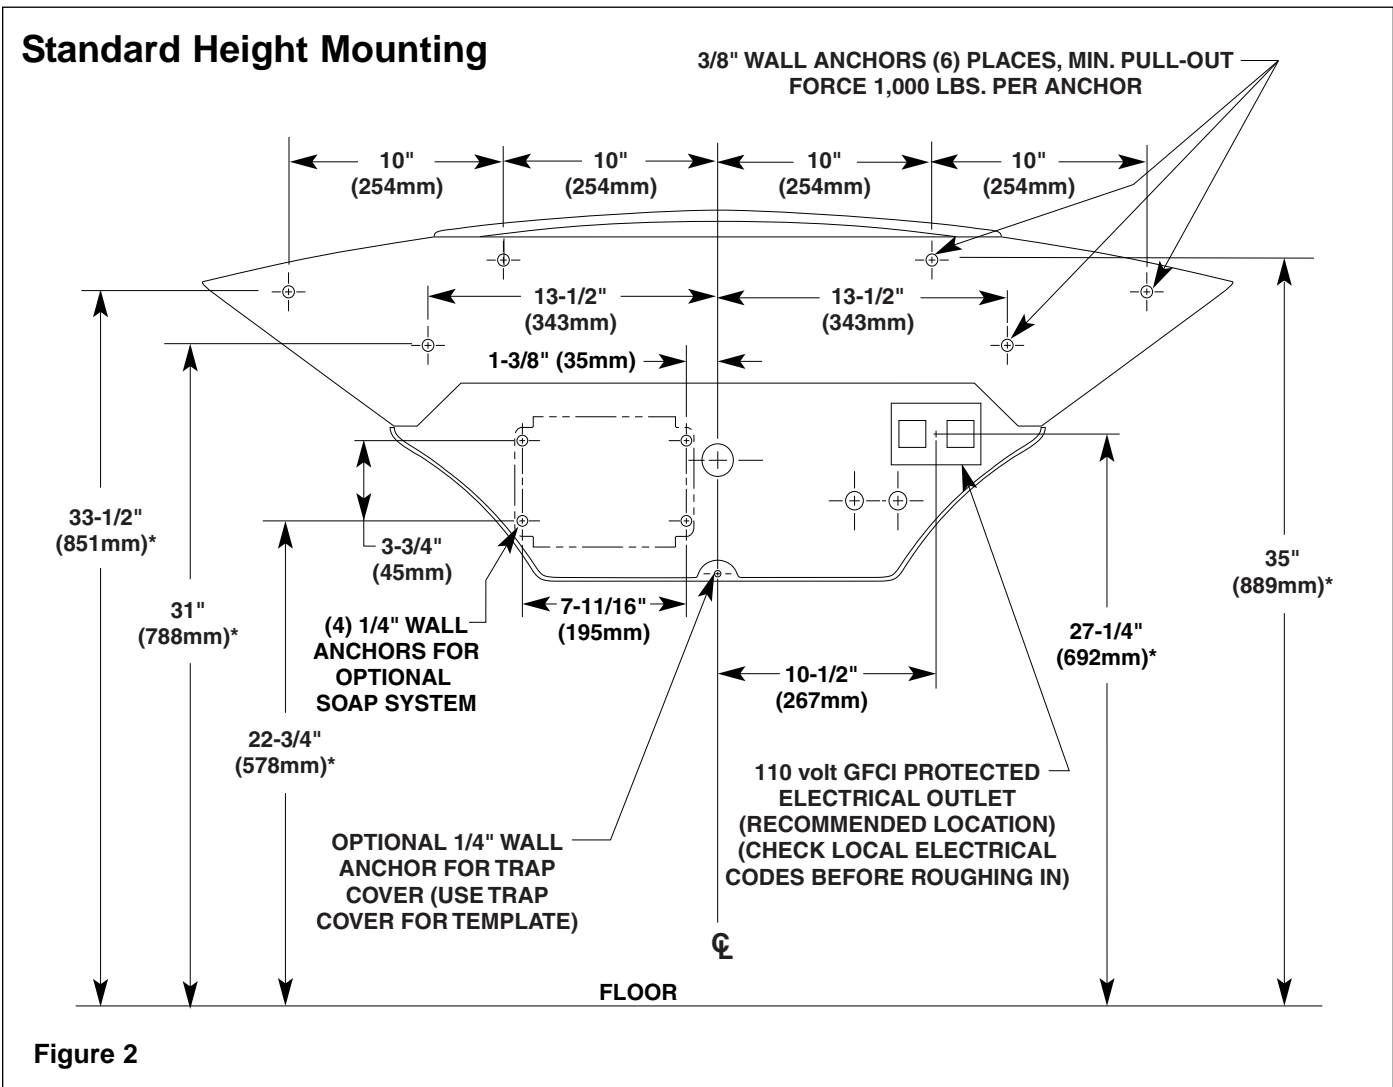

Figure 2
NOTE: Refer to Figure 1 below and Figure 2 on page 4 for Express® Crescent® Lavatory System rough-ins and dimensions.
2. Install a 110 volt GFI protected electrical outlet per local code at the location shown in Figure 2.
3. Install six 3/8" wall anchors with a minimum pull-out rating of 1,000 lbs. (supplied by installer) at the locations marked in Figure 2.
4. OPTIONAL TRAP COVER: Install one 1/4" wall anchor at the location marked in Figure 2.